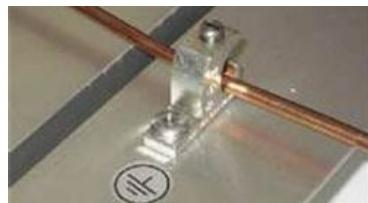

Figure 7D: Image of Ilasco Ground Lug attached to Solar Module
- 3) Ilasco ground lay-in lug PN GBL-4DBT or equivalent. (Figure 7D)